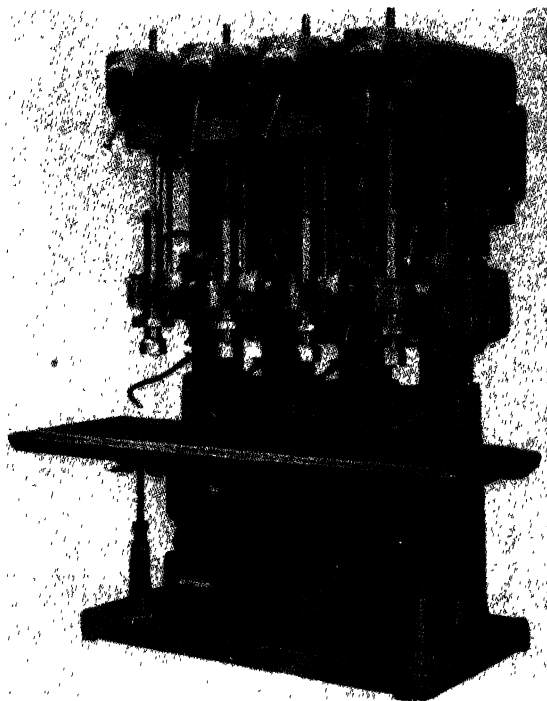

Fig. 7-7. A four-spindle gang drill press. (*The Cincinnati Bickford Tool Company*)
**The Sensitive Drill Press.** This machine (Fig. 7-5) is used for drilling small holes with hand (sensitive) feed. They are made in various sizes and may have from one to eight spindles (see Fig. 7-7 for similar gang drill).
**The Gang Drill.** This is a collection in one machine (Fig. 7-7) of the essential speed and feed units of from two to eight single drill presses mounted on one base and provided usually with one verti-